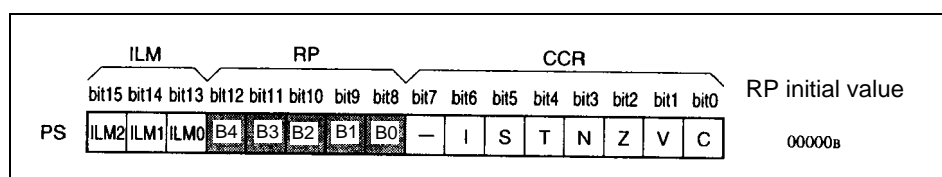

Figure 2.7-10 Configuration of the register bank pointer (RP)
■ Register bank pointer (RP)
Figure 2.7-10 shows the configuration of the register bank pointer (RP) register.